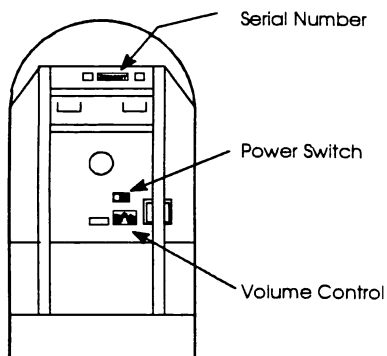

Fig.6
The CD-jukebox operates on normal household power outlet. Set mains switch at rear wall of cabinet to on position (Fig. 6). If the selection and credit memory is empty the basket turns once and the left two digits show alternatingly a "0". After a short time the display counts up to the carrier size in the two RH digits (50 or 00 for 100 discs). After this the basket stops in position "01". The digital display shows "0 0 0 0", then "0 0 0 1" when a basket with 100 CDs is used, "0 1 0 1" for a 50 CD carrier.
- The volume can be controlled with one of the two volume control knobs at the rear side of the jukebox (Fig. 6).